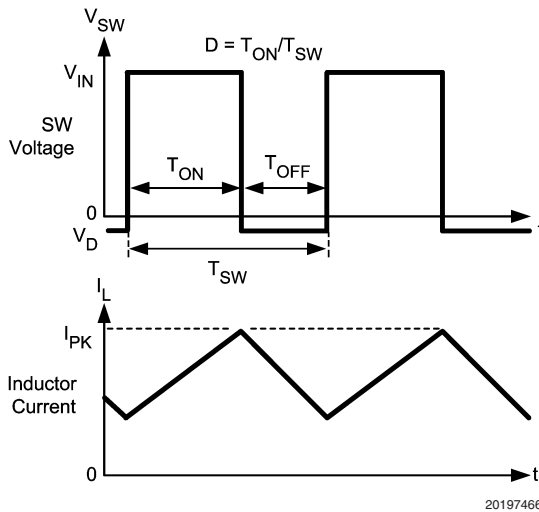

FIGURE 2. Typical Waveforms
The LM2830 is a constant frequency PWM buck regulator IC that delivers a 1.0A load current. The regulator has a preset switching frequency of 1.6MHz or 3.0MHz. This high frequency allows the LM2830 to operate with small surface mount capacitors and inductors, resulting in a DC/DC converter that requires a minimum amount of board space. The LM2830 is internally compensated, so it is simple to use and requires few external components. The LM2830 uses current-mode control to regulate the output voltage. The following operating description of the LM2830 will refer to the Simplified Block Diagram (Figure 1) and to the waveforms in Figure 2. The LM2830 supplies a regulated output voltage by switching the internal PMOS control switch at constant frequency and variable duty cycle. A switching cycle begins at the falling edge of the reset pulse generated by the internal oscillator. When this pulse goes low, the output control logic turns on the internal PMOS control switch. During this on-time, the SW pin voltage (V_{SW}) swings up to approximately V_{IN} , and the inductor current (I_L) increases with a linear slope. I_L is measured by the current sense amplifier, which generates an output proportional to the switch current. The sense signal is summed with the regulator's corrective ramp and compared to the error amplifier's output, which is proportional to the difference between the feedback voltage and V_{REF} . When the PWM comparator output goes high, the output switch turns off until the next switching cycle begins. During the switch off-time, inductor current discharges through the Schottky catch diode, which forces the SW pin to swing below ground by the forward voltage (V_D) of the Schottky catch diode. The regulator loop adjusts the duty cycle (D) to maintain a constant output voltage.